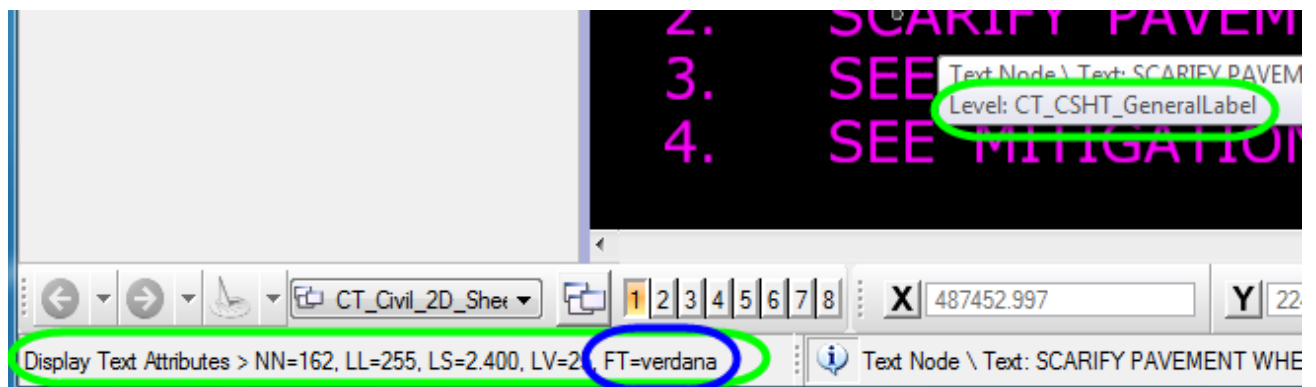

Figure 83 - Paste Text Into MicroStation
- Place the text** where you want to place it. The text can now be edited in **MicroStation** using the Edit Text command. As you can see below the text symbology changed from the Word font (Arial, Figure 81) to **MicroStation** font (Verdana, Figure 83) and the other **MicroStation** text attributes.